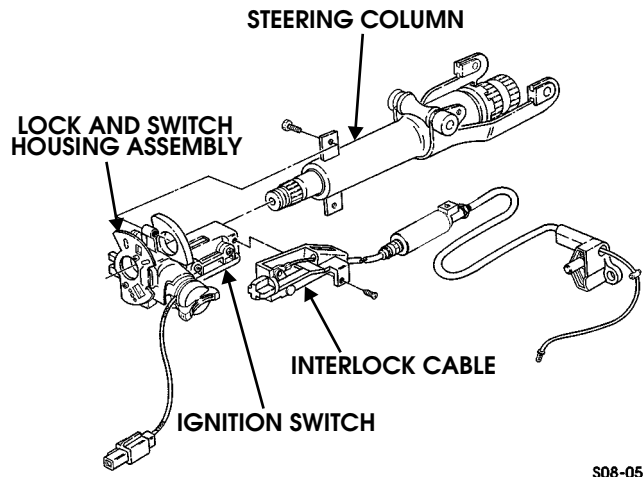

Figure 8-11: Lock and Switch Housing Assembly Replacement
4. Remove screw and interlock cable from ignition switch (Figure 8-11).
1. Apply thread-locking compound to bolt threads and secure lock and switch housing assembly on steering column with two bolts (Figure 8-11).
2. Remove two screws and lock and switch housing assembly from steering column (Figure 8-11).
4. Secure lock and switch housing assembly to steering column with two screws (Figure 8-11).